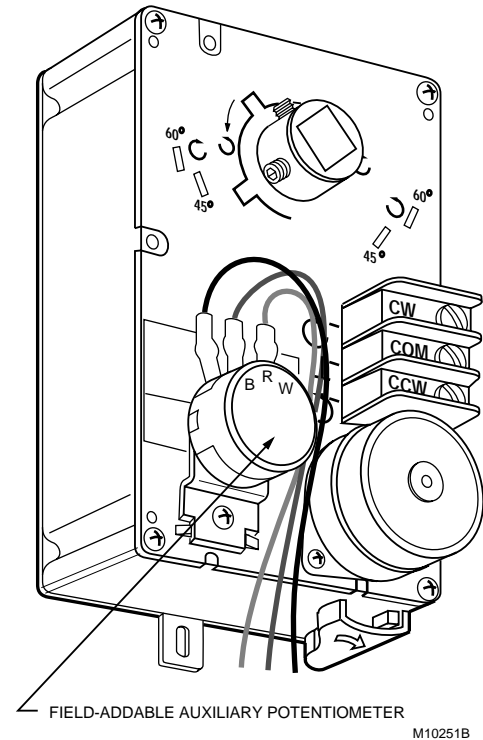

Fig. 14. ML6161A,C, ML6174A,C with field-addable potentiometer.
The 200976A,C Auxiliary Potentiometers mount on the face of the ML6161A,C or ML6174A,C (as shown in Fig. 14). The potentiometer shaft has a slipping collar. If one of the two limits of the potentiometer is exceeded, the collar continues to rotate, causing no damage to the potentiometer itself. To mount the potentiometer on the actuator:
2. Check the resistance values of the potentiometer with an ohmmeter at intervals in the stroke while referring to the table in Fig. 14 and resistance information provided in the Specifications section.